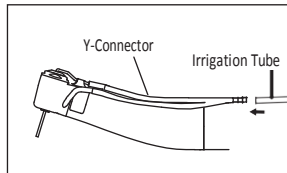

Fig.9
- 2) Connect the Irrigation Tube to the Y-Connector firmly. (Fig.9)